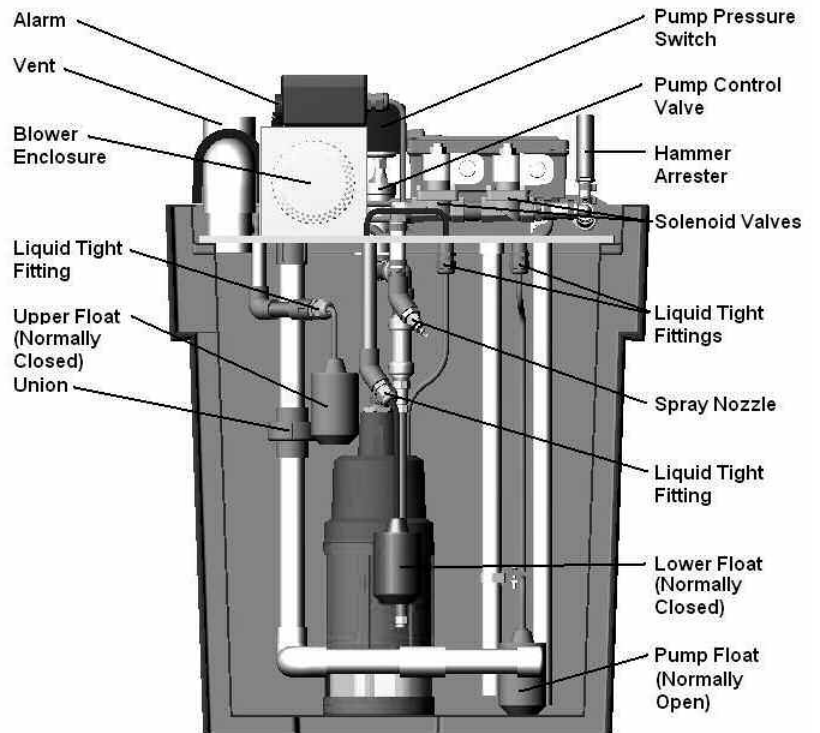

Figure 4 – Pump Installation
2. Remove all packing materials from inside the tank and between the mounting plate and pump controller (See Figure 4).